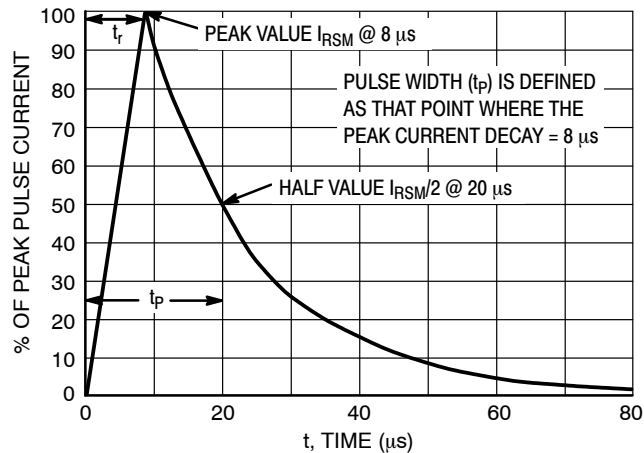

Figure 5. 8 x 20 μ s Pulse Waveform
1. Non-repetitive current per Figure 5.
4. Surge current waveform per Figure 5.